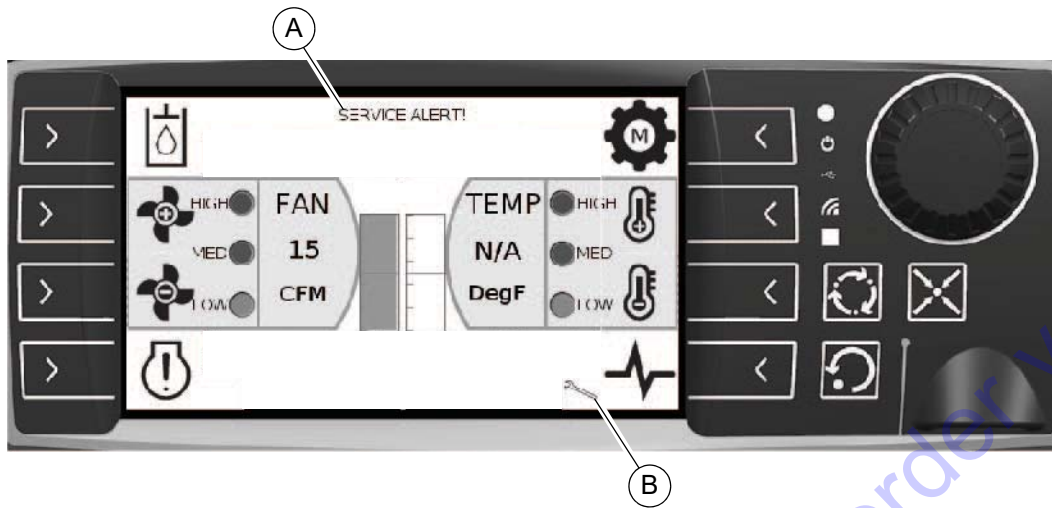

Figure 5-1.
See **Figure 5-1** The controller indicates warnings and faults by displaying messages in the message bar (A) and/or by displaying an icon (B, for example).